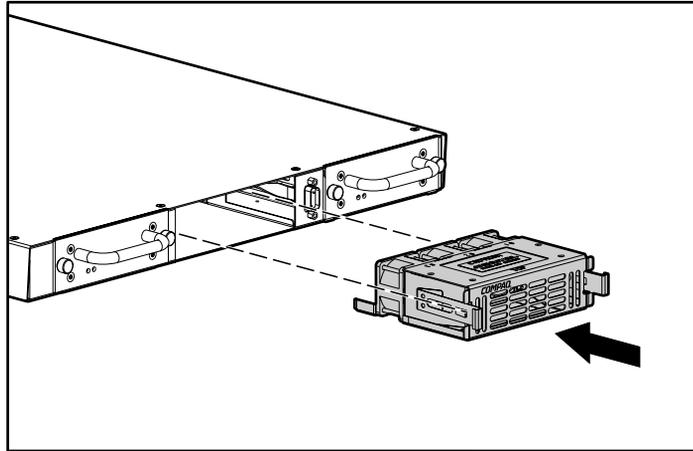

Figure 125: Installing a fan module
3. Insert the new fan module into the fan bay, using the orientation shown in Figure 125, Installing a Fan Module. Push the module into position until the fan latches lock into place.